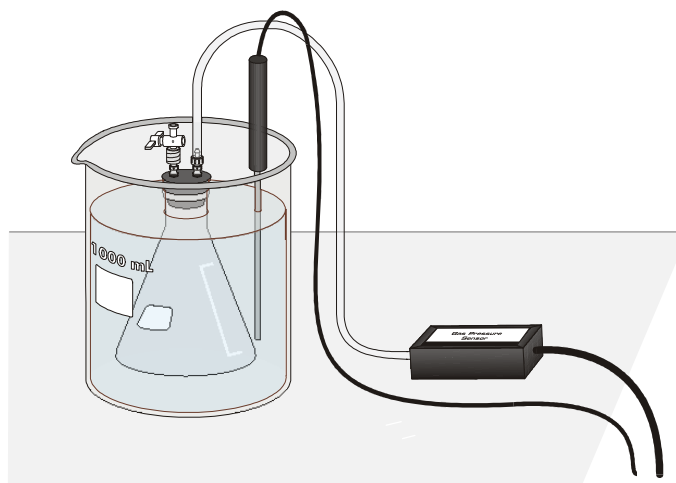

Figure 2
1. Assemble the apparatus shown in Figure 2. Make sure the rubber stopper and flask neck are dry. With the valve open, insert the rubber stopper and twist and push firmly into the flask to ensure it will not pop out at higher temperatures. Close the valve. The flask must be immersed in the water up to the level of the stopper. Hold it down with a stand and clamp (not shown in Figure 2).